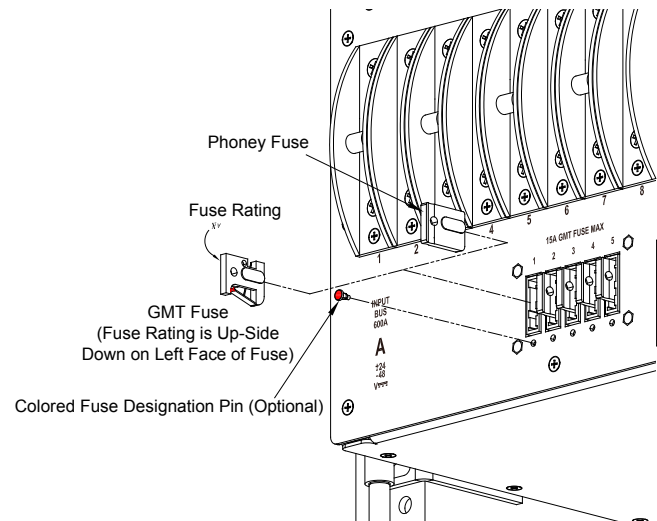

Figure 16 - Installing GMT Fuses
34. Again, make sure load devices are disabled and then install GMT fuses, as shown on the right. Remember, GMT fuses need to be installed so that failure indication flags are at the bottom, as shown in Figure 16. If applicable, also install optional fuse designation pins below the fuses.